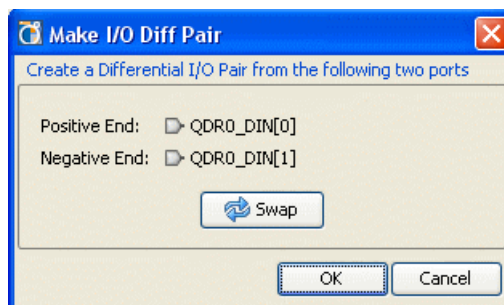

Figure 8-15: Make I/O Diff Pair
1. Select any two I/O ports, then select **Make Diff Pair** in the popup menu of the I/O Ports view, as shown in Figure 8-15.